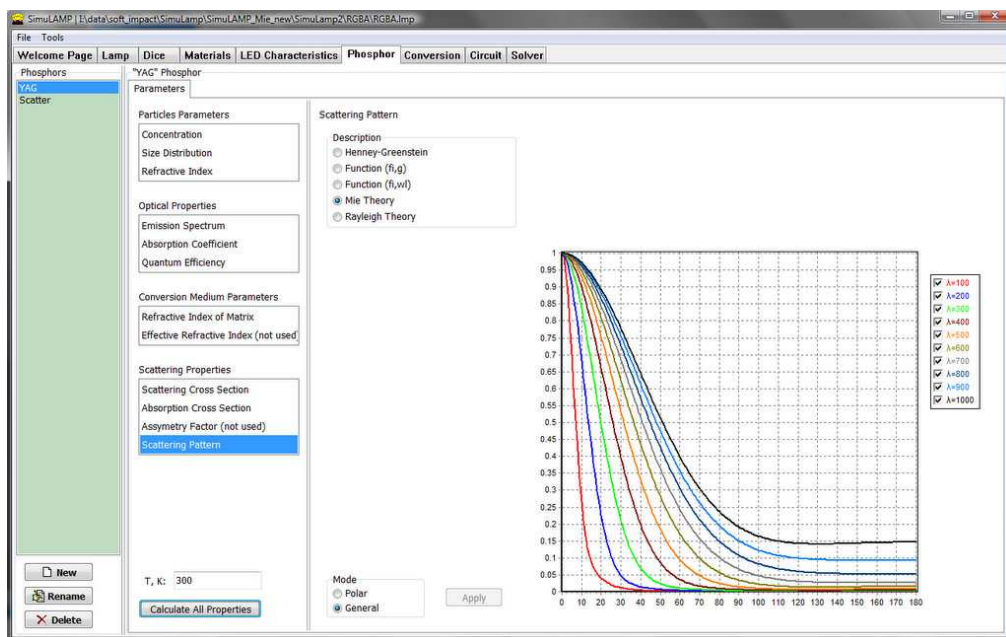

Fig. 20
- ✓ **Scattering Pattern** is the scattering pattern of the phosphor particles for different values of wavelength (**Fig. 20**). There are five options to specify it: function of polar angle and asymmetry factor (specified above), function of polar angle and wavelength, Henney-Greenstein approximation using specified above asymmetry factor, and calculations within Mie or Rayleigh models.